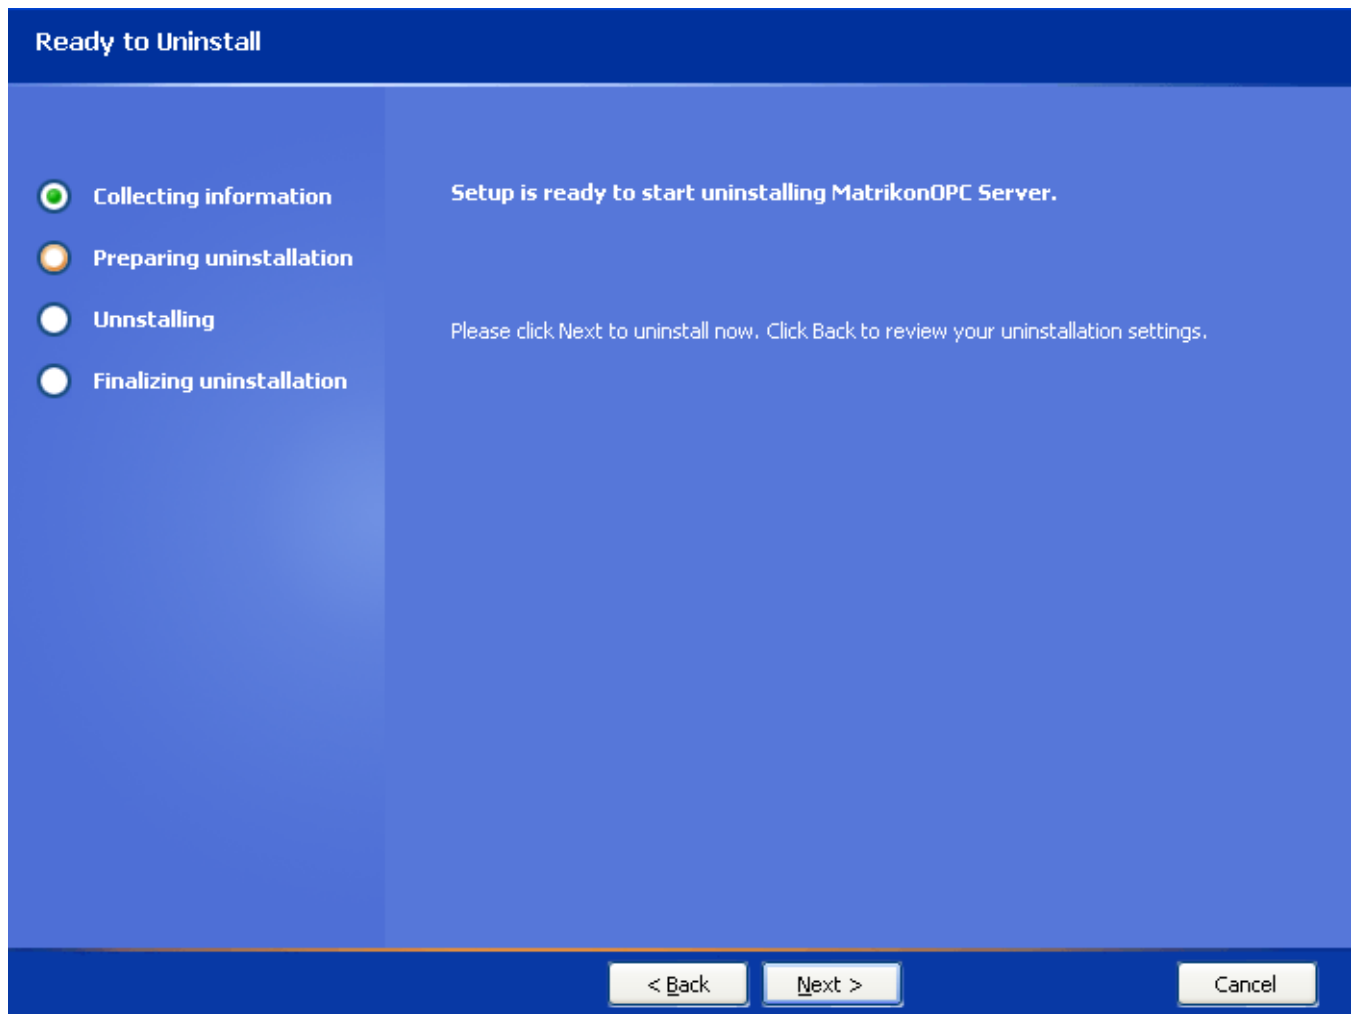

Figure 75 - Ready to Uninstall Screen
8. Click on the **Next** button. The **Ready to Uninstall** screen (Figure 75) is displayed.